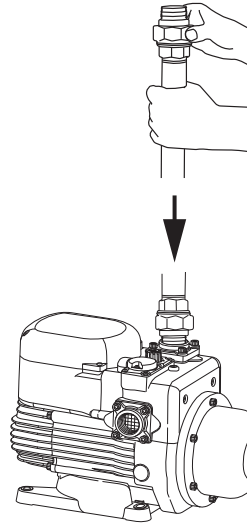

Fig. 1
3.1 Install union to inlet and outlet piping prior to installing them to pump flanges. (See Fig. 1).